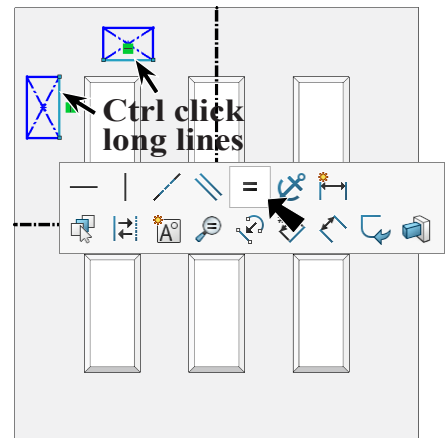

Fig. 27
Step 9. **Ctrl click a long side line of each rectangle** to select the two lines. Release Ctrl key and click **Make Equal**  on the context toolbar, **Fig. 27**.